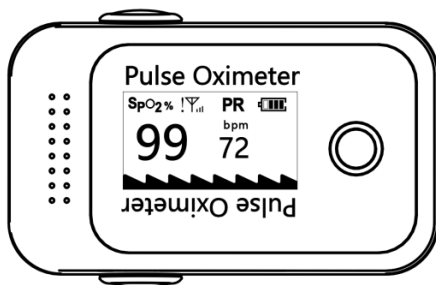
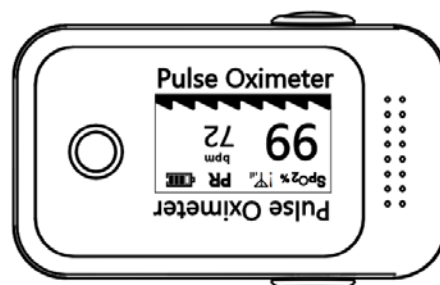

Figure 7
Figure 8
a. Press the “POWER/FUNCTION” button to power on the device, press it again to rotate the display orientation, as shown in **Figure 7** and **Figure 8**.